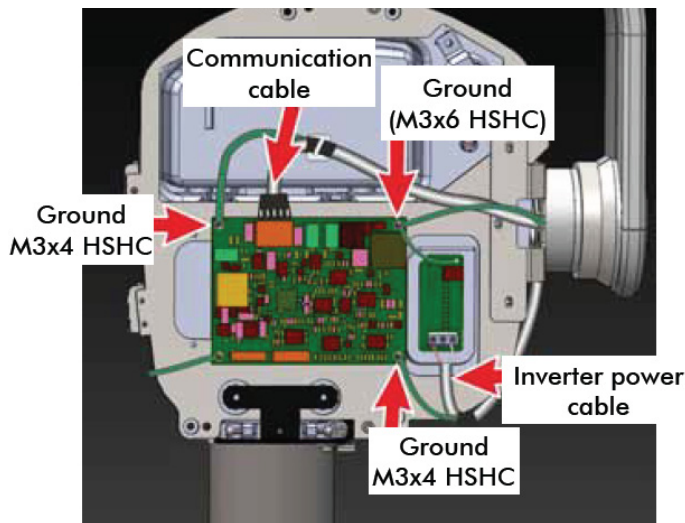

Figure 49
- Press the connector locking tab and pull the cable connector (communication cable) connected to J4 connector of the control board as shown in the Figure 49 .
- Disconnect the INV power cable from the sealing board 3 pin connector -pins 1 & 3 as shown in the Figure 49 (hold the connector firmly by hand while removing) using Jewel screw driver.
- Remove the screws used for GND wire connections for both cables at 3 corners of the Control board using 2.5MM allen key as shown in Figure 49 and put back the screws in its location.
- Route the INV power cable as shown in the Figure 49 and connect it to the sealing board 3 pin connector (Pin 1 & 3). Hold the connector firmly while tightening the terminal screws. Using a 2.5mm allen key connect the GND ring terminal of the INV cable to the nearest control board fixing screw(M3x4 HSHC) as shown in the Figure 49 .
- Route the communication cable and connect it to the J4 connector of the control board as shown in Figure 49 and using a 2.5mm allen key connect the GND ring terminal of the communication cable to the nearest control board fixing screw(M3x4 HSHC) as shown in the Figure 49 .
- Fix the scissor-arm grounding cable on the control board along with sealing board grounding cable with M3X6 Hex. Socket Head cap screw using 2.5MM Allen key as shown in Figure 49 .